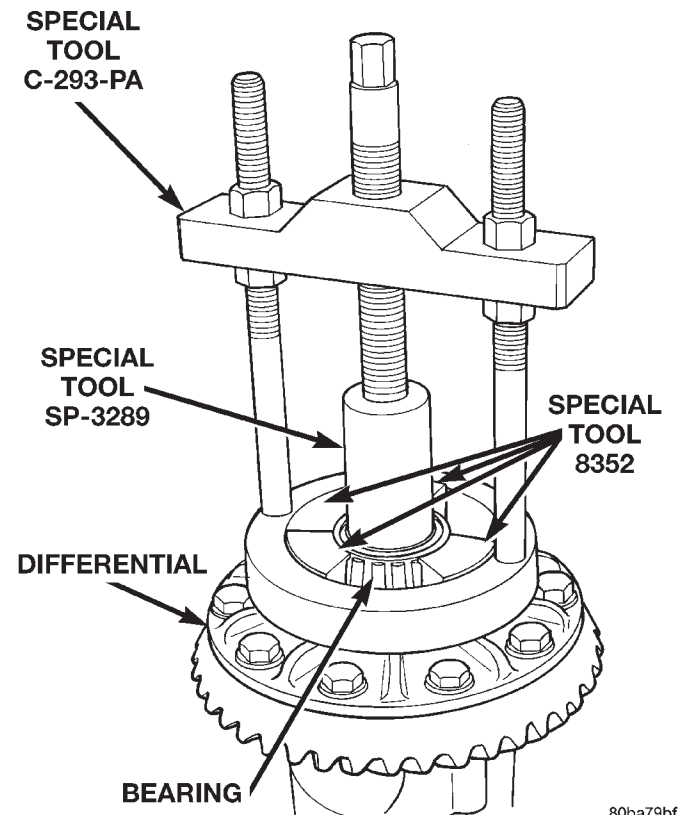

Fig. 38 Differential Bearing Removal
- (1) Remove differential case from axle housing.
- (2) Remove the bearings from the differential case with Puller/Press C-293-PA, Adapter Blocks 8352, and Plug SP-3289 (Fig. 38).